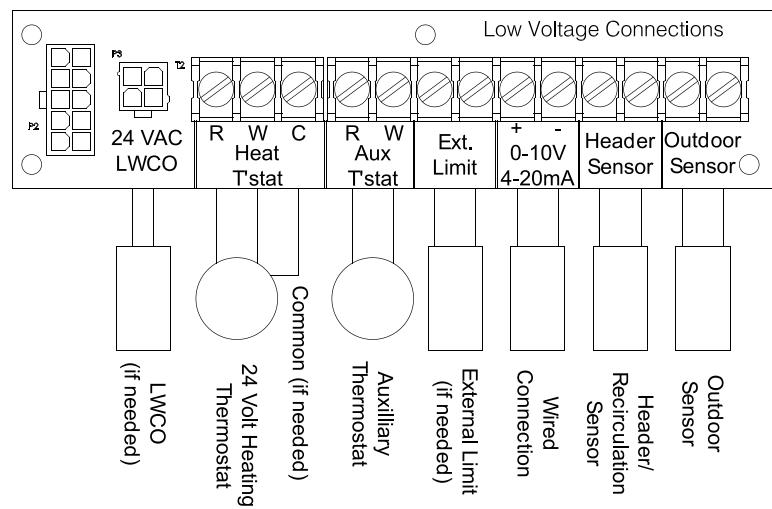

Figure 13-3: Low Voltage Connections
- Connect jumper, time of day clock or momentary push button to "Aux T'Stat" terminals per Figure 13-3.
- Connect recirculation temperature sensor to "Header Sensor" terminals per Figure 13-3.
NOTICE: Boiler is equipped with a UL 353 listed high water temperature limit. This limit provides boiler shutdown in event boiler water temperature exceeds set point of control. Certain local codes require an additional water temperature limit. If necessary, install an additional water temperature limit (Honeywell L4006 Aquastat). Wire as indicated in Figure 13-3.
- All low voltage field connections to boiler are made on Low Voltage Connections terminal strip (see Figure 13-3) located on left side of bottom panel. Route all low voltage wiring through conduit knock out holes located on left side in front of terminal strip.